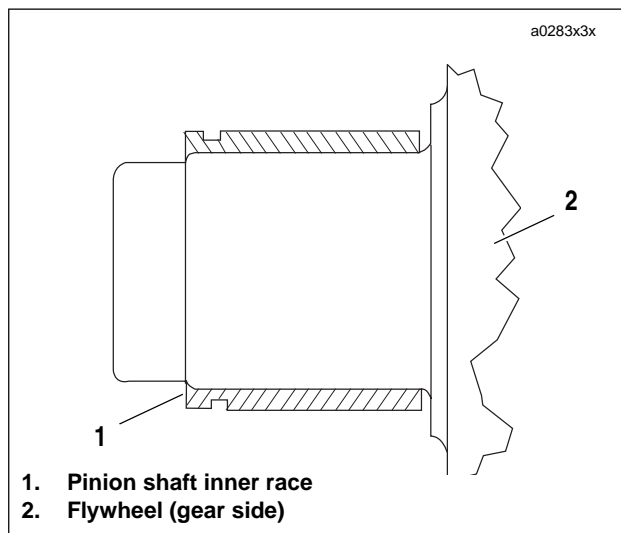

Figure 3-130. Inner Race Location
7. See Figure 3-130. Pull inner race from pinion shaft using WEDGE ATTACHMENT for CLAW PULLER (Part No. HD-95637-46A) with BEARING RACE REMOVER/INSTALLER (Part No. HD-34902B) and END CAP (Part No. HD-34902-7). Apply heat to race to aid removal.